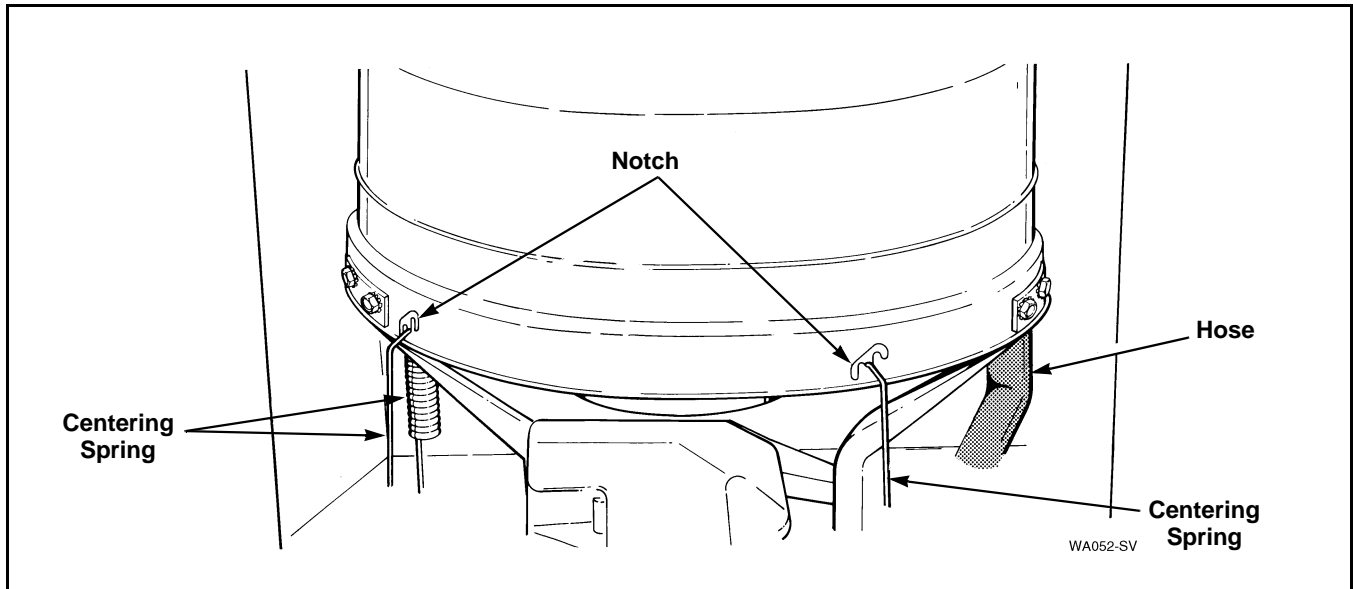

Figure 43
- n. Using No. 321P4 Spring Hook Tool, unhook five centering springs from lower edge of outer tub. Refer to *Figure 43*.
n. Using No. 321P4 Spring Hook Tool, unhook five centering springs from lower edge of outer tub. Refer to *Figure 43*.